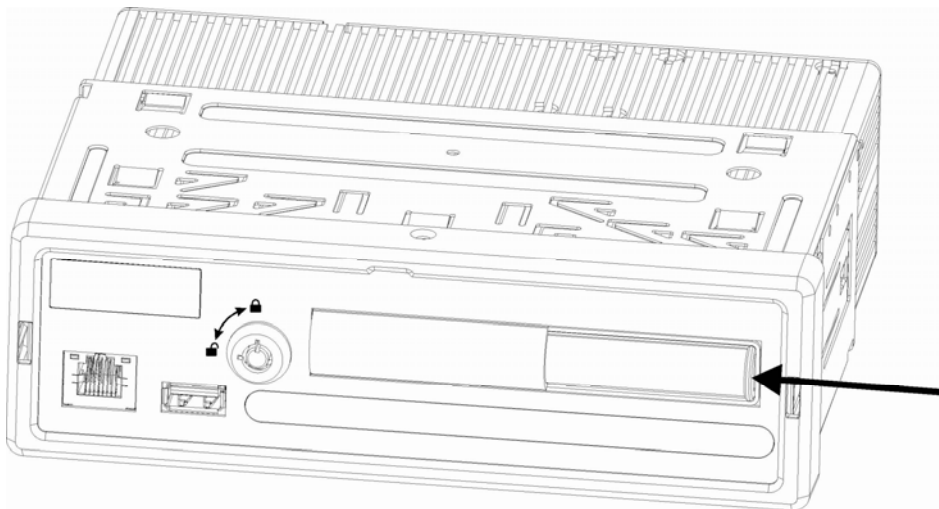

Figure 2-12
1) Unlock SD card. Please insert the key to the hole and the turn clockwise to open the lock. Please follow the arrowhead in Figure 2-12 to push the handspike. .